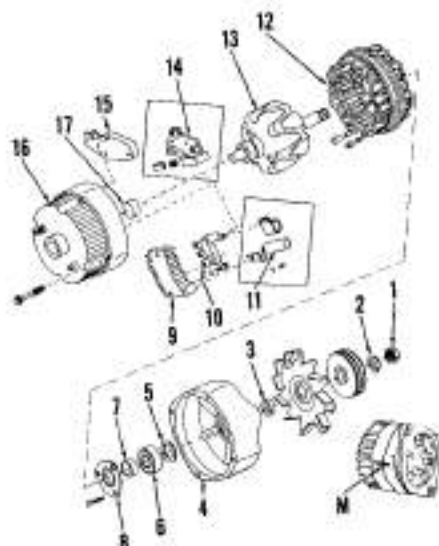
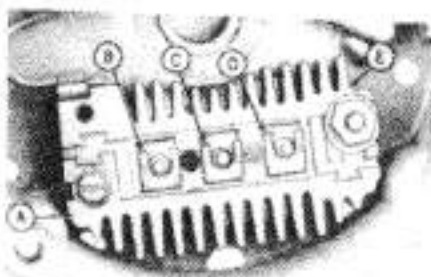

Fig. 101—Exploded view of Delco-Remy alternator with internal mounted solid-state regulator. Note match marks (M) on end frames.
Fig. 105—Bridge rectifier test points, refer to text.
**102. OVERHAUL.** To disassemble the alternator, first scribe matching marks (M—Fig. 101) on the two frame halves (4 and 16), then remove the four through-bolts. Pry frame apart with a screwdriver
The rectifier bridge (Fig. 105) has a grounded heat sink (A) and an insulated heat sink (E) that is connected to the output terminal. Connect ohmmeter to the grounded heat sink (A) and to the flat metal strip (B). Then reverse the ohmmeter lead connections. If both readings are the same, the rectifier bridge is defective. Repeat this test between points A and C, A and D, B and E, C and E, and D and E. Capacitor (11—Fig. 101) connects to the rectifier bridge and grounds to end frame, and protects the diodes from voltage surges.
Brushes and springs are available only as an assembly which includes brush holder (14—Fig. 101). If brushes are reused, make sure all grease is removed from surface of brushes before unit is reassembled. When reassembling, first install regulator and then brush holder, springs and brushes. Push brushes up against spring pressure and insert a short piece of straight wire through hole in brush holder and through end frame to outside. Be sure that the two screws
Remove and inspect ball bearing (6—Fig. 101). If bearing is in satisfactory condition, fill bearing  $\frac{1}{4}$  full with Delco-Remy Lubricant No. 1948791 and reinstall. Inspect needle bearing (17) in slip ring end frame. This bearing should be renewed if its lubricant supply is exhausted; no attempt should be made to relubricate and reuse the bearing. Press old bearing out toward inside and press new bearing in from outside until flush with outside of end frame. Saturate felt seal with SAE 20 oil and install seal.